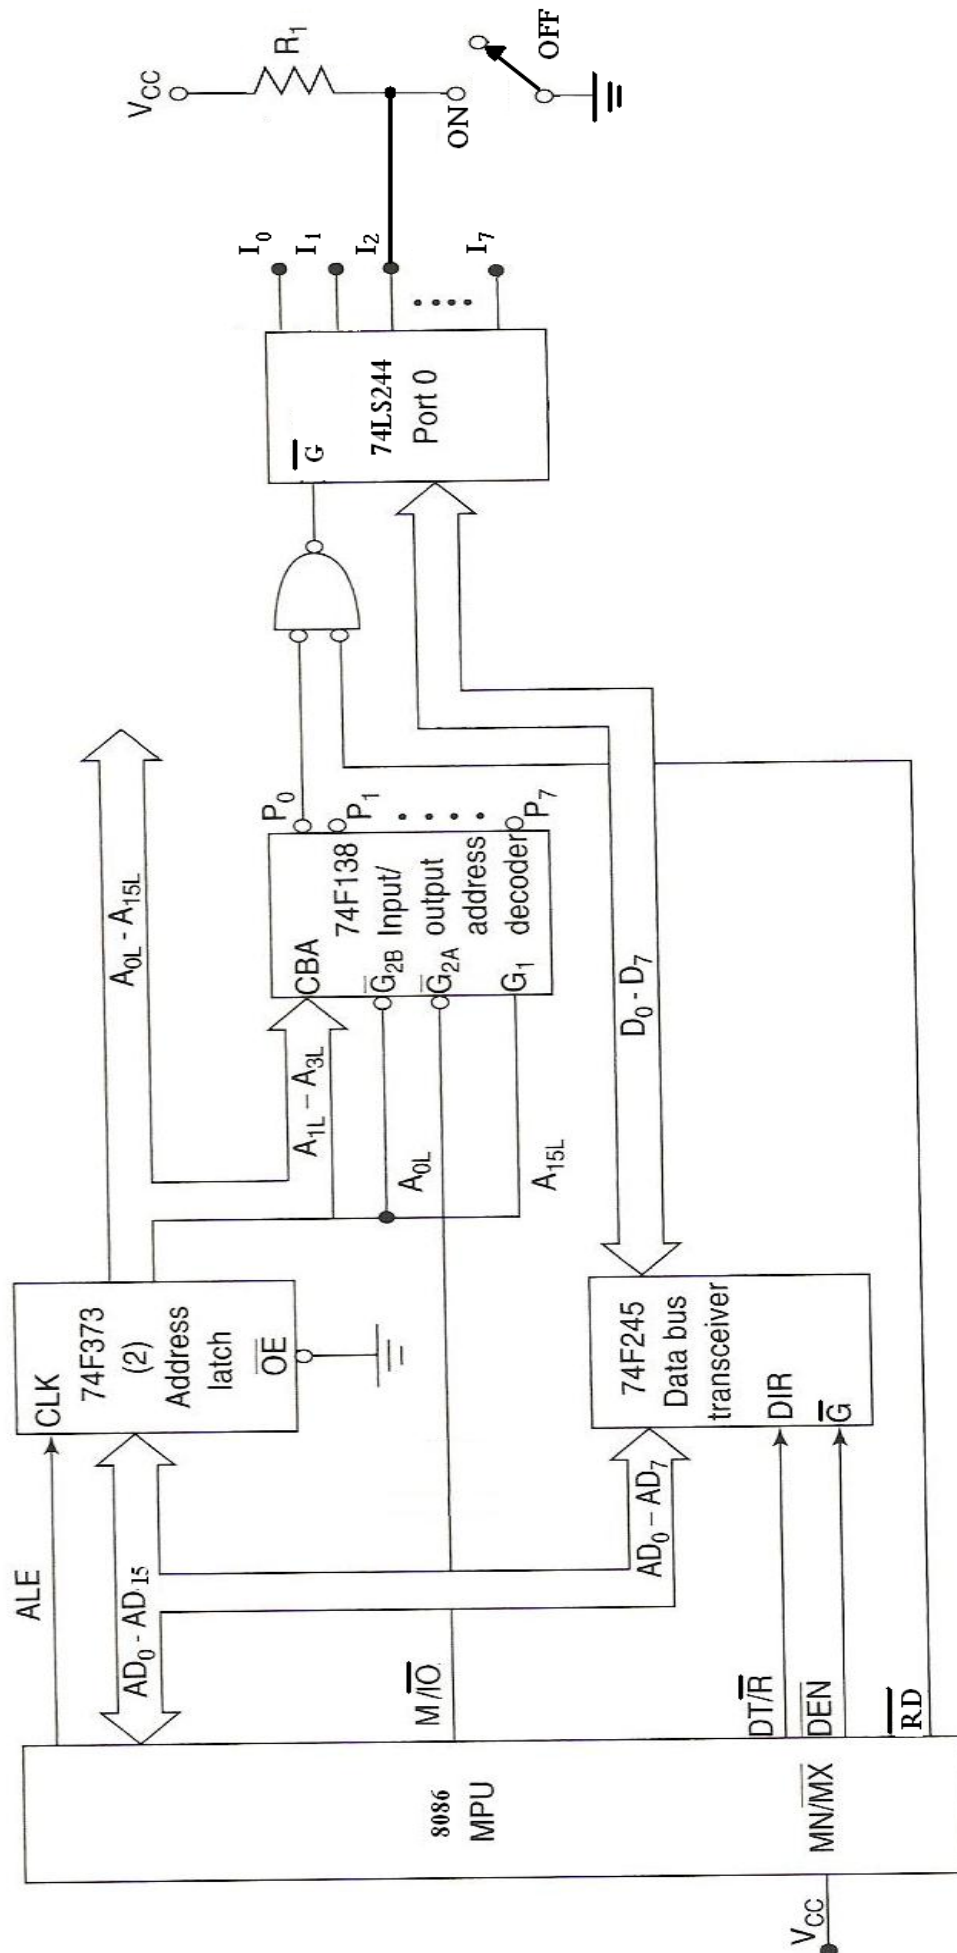

Figure 12-5: reading the setting of switch connected to an input port.
The circuit in Figure 12-5 show how to attach a switch to input port **I₂** of parallel **port 0**. The port address is **8000H**, and the switch corresponds to **bit2** of the byte of data that is read from port 0. The circuit use 74LS244 (unidirectional octal buffer).
Example 12-5: Write a sequence of instructions to read in the contents of ports 1 and 2 in the circuit shown in figure 12-5, and save them at consecutive memory addresses $A0000_{16}$ and $A0001_{16}$ in memory.
7. What is the address of input port 6 in the circuit shown in figure 12-5?